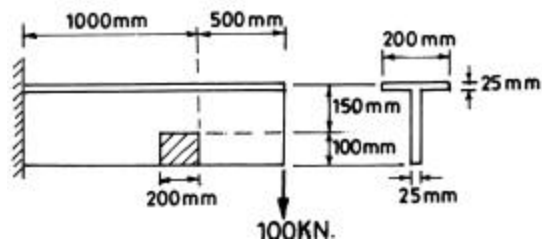

Fig. 5
5. A T-beam is loaded as shown in Fig. 5. From this beam isolate a segment $200 \times 100 \times 25 \text{ mm}$ (shown by shaded portion). Draw the free body diagram of this segment indicating the location, magnitude and sense of resultant forces due to bending and shear stresses. Check the equilibrium of the isolated segment.